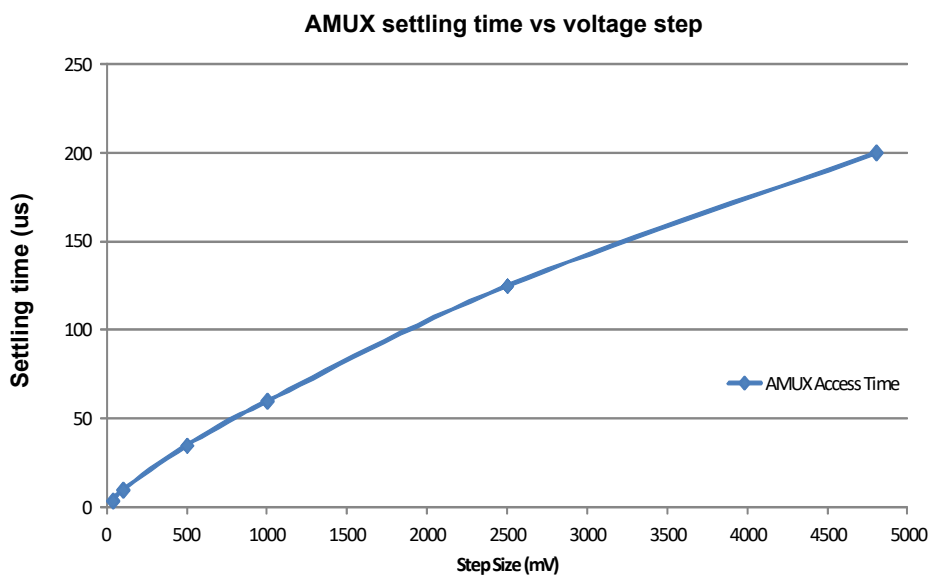

Figure 9. AMUX access time waveform
26. AMUX settling time to be within the 10 mV offset specification.  $\text{AMUX}_{\text{VALID}}$  is dependant of the voltage step applied on the input SGx/SPx pin or the difference between the first and second channel selected as the multiplexed analog output. See Figure 9 for a typical AMUX access time VS voltage step waveform.